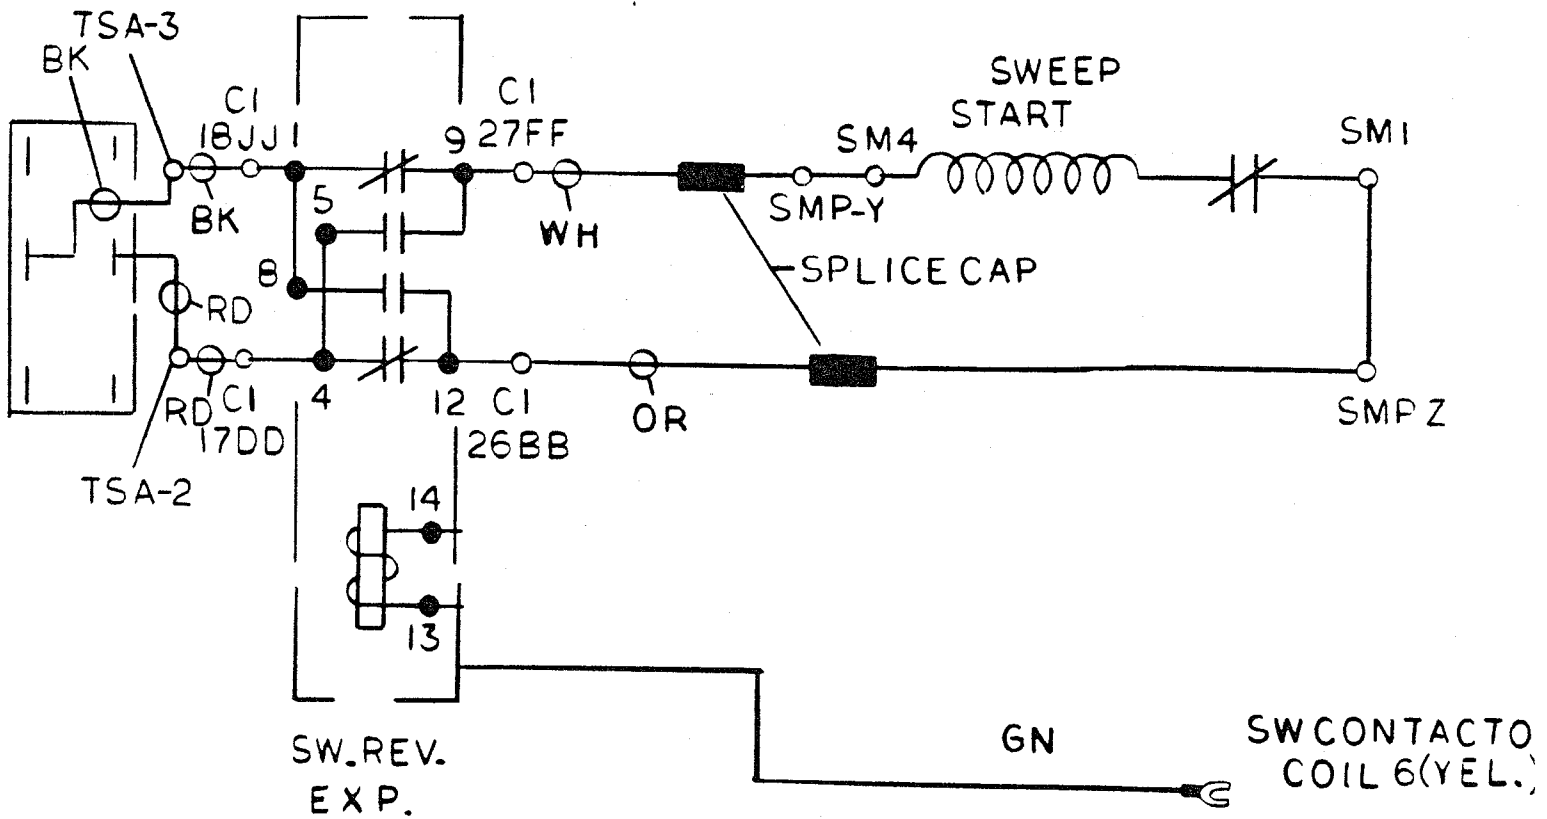

FIG. 6
23. Connections should now be as shown in Fig. 6.
SEE FIG 6 FOR